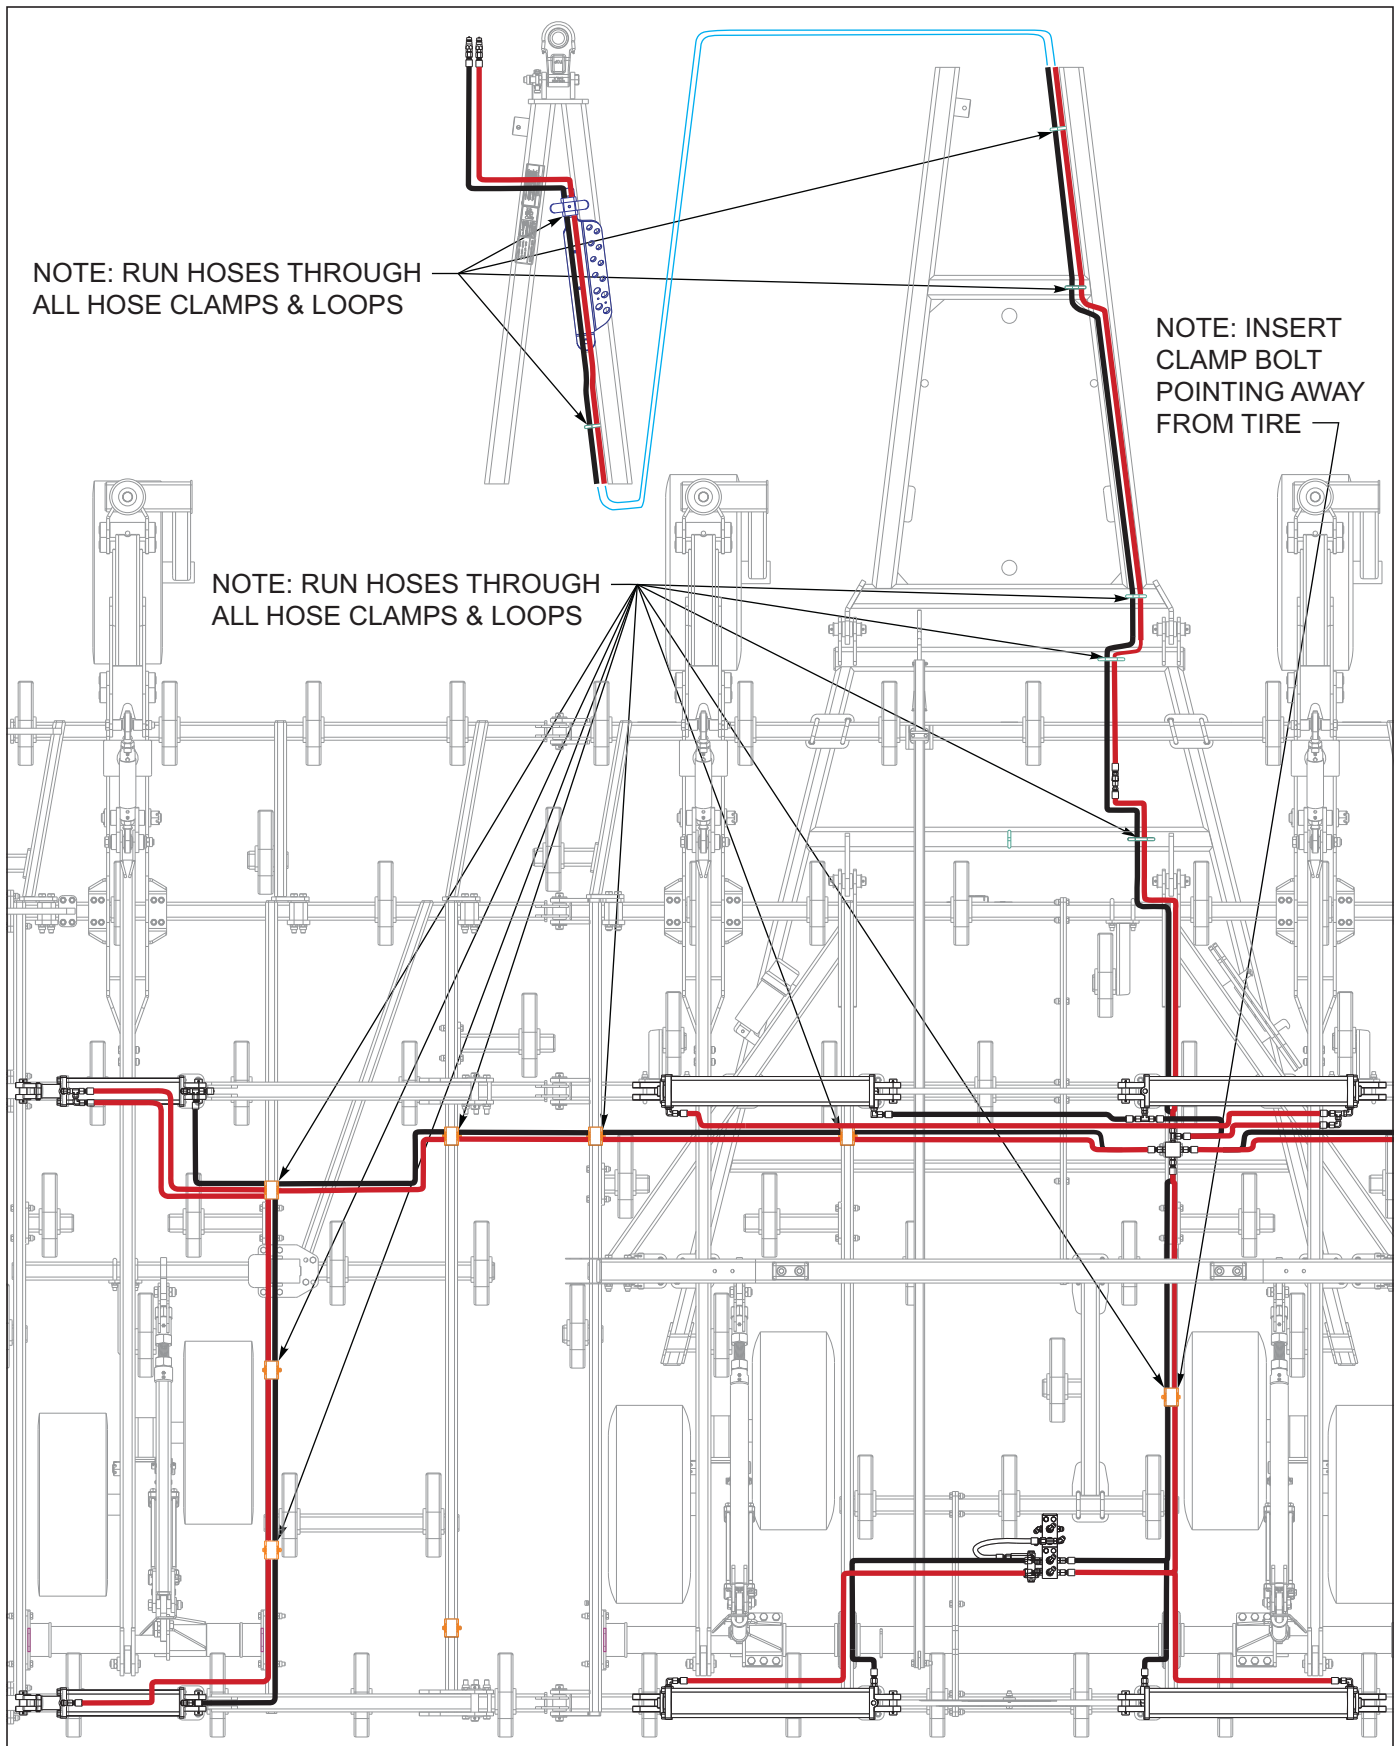

Figure 3-17: Hydraulic Fold Layout 9450FH-38' - 42' LH
10. Install fold system hoses per Figure 3-17 (9650-38 and 9650-42) or Figure 3-22 (9650-46 and 9650-50.) Wrap fold system hoses with yellow hose wrap.